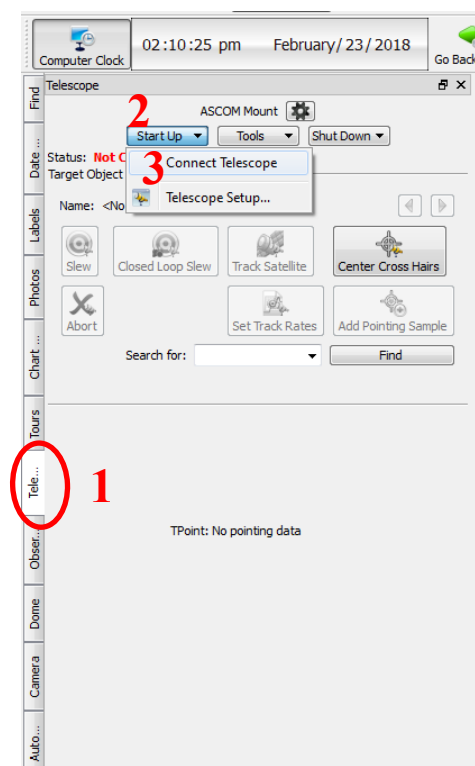

Fig. 2.11. The connection establishment between the telescope and “TheSkyX” software.
8. Open “**TheSkyX**” software that is located on the upper right part of the desktop. The following screen (Fig. 2.11) displays on the left side of the software’s window.